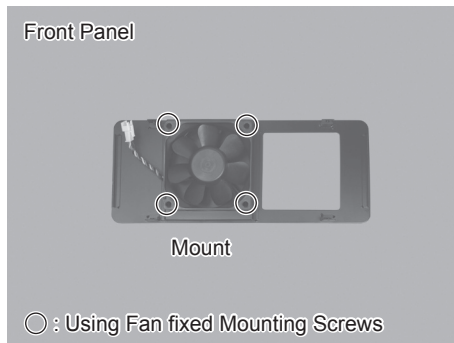

Fig. 47
- (10) Mount the Replacement FAN onto the Case (Front Panel) by using FAN Mounting Screws (4pcs.) (Specified Torque :  $0.5N\cdot m \pm 0.1$ ) (Fig. 47).